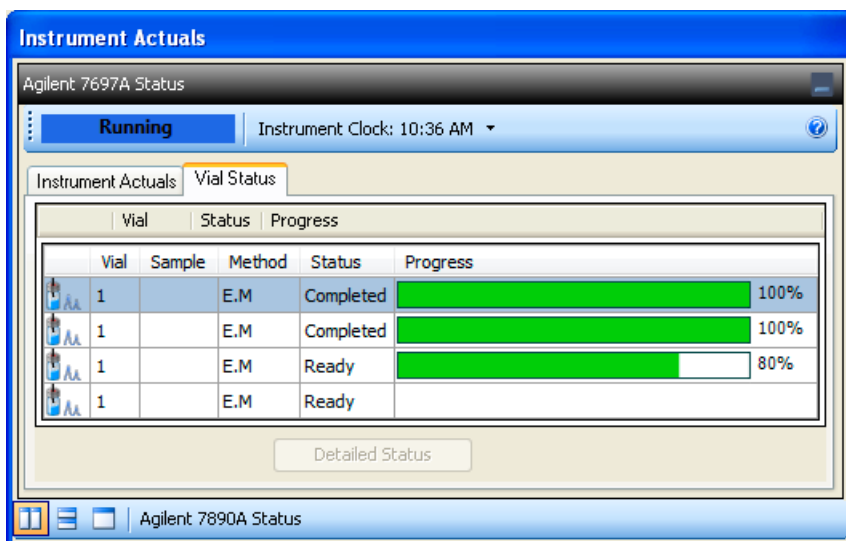

Figure 28 The Agilent 7697A Status > Vial Status panel
- To view the **Agilent 7697A Status > Vial Status** panel, select the **Vial Status** tab (Figure 28).